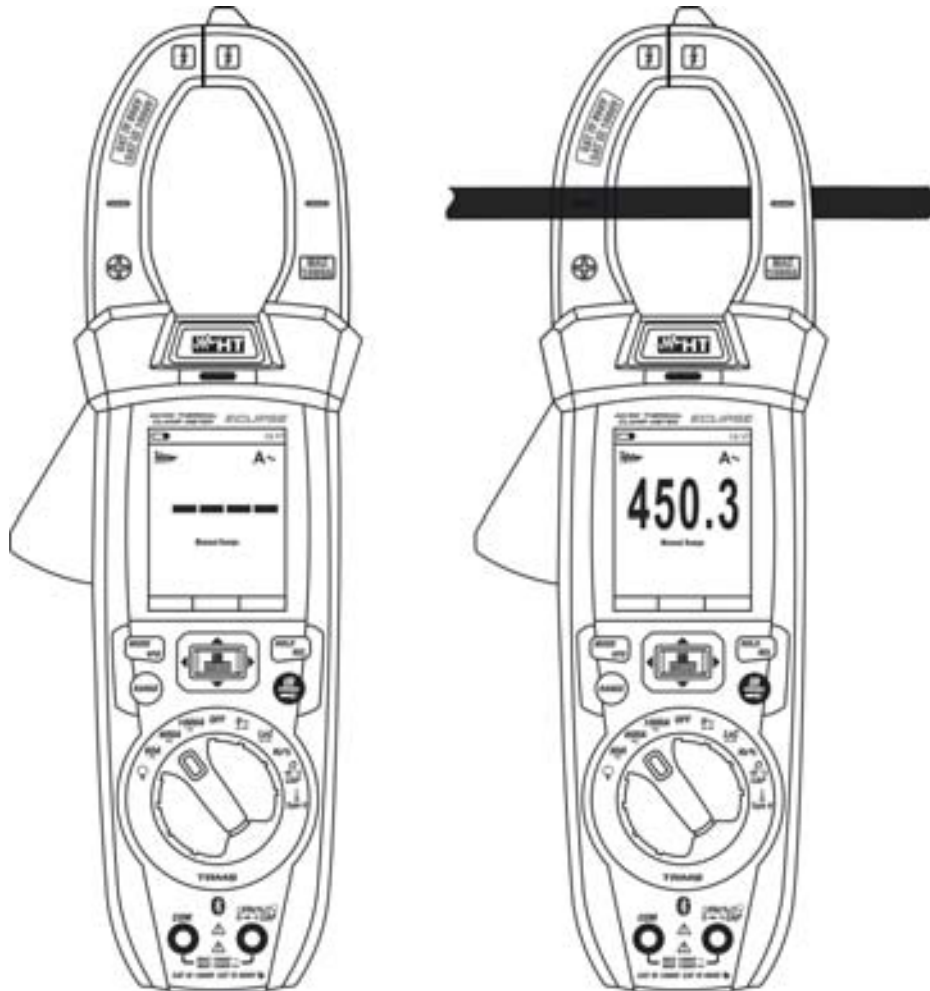

Fig. 33: Use of the instrument for AC Inrush current measurement
3. Long press the key **INRUSH** to activate the "INRUSH" function. The "**INRUSH**" and "- - -" symbols appears at display (see Fig. 33 – left side)
4. Put the conductor to be tested inside to the center of clamp jaw (see Fig. 33 – right side) in order to perform accurated measurements. Consider the notches on jaws as reference (see Fig. 3)